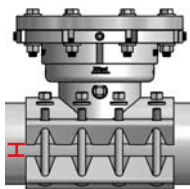

Figure 5
8. Using a torque wrench, tighten nuts in proper pattern. Tightening patterns are shown in Figure 5 and Figure 6. **Repeat tightening pattern in no more than 25 ft. lb. increments until recommended torque is reached.**